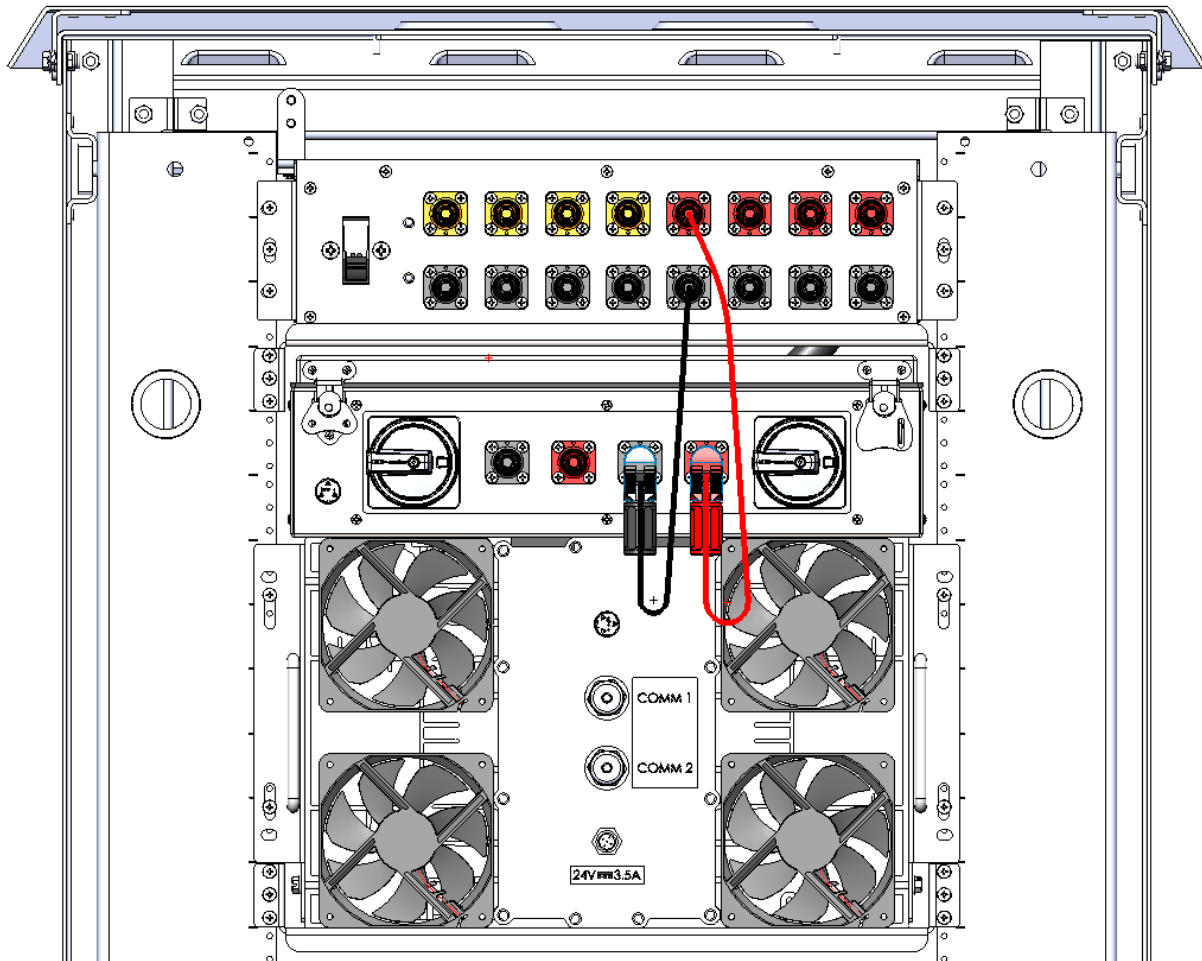

FIGURE 26: SURLOK CABLING ROUTED TO SECONDARY (OUTPUT) FEED #1
- (2) 1.5-foot SurLok Cables for SPOT #1 shown in Figure 26.